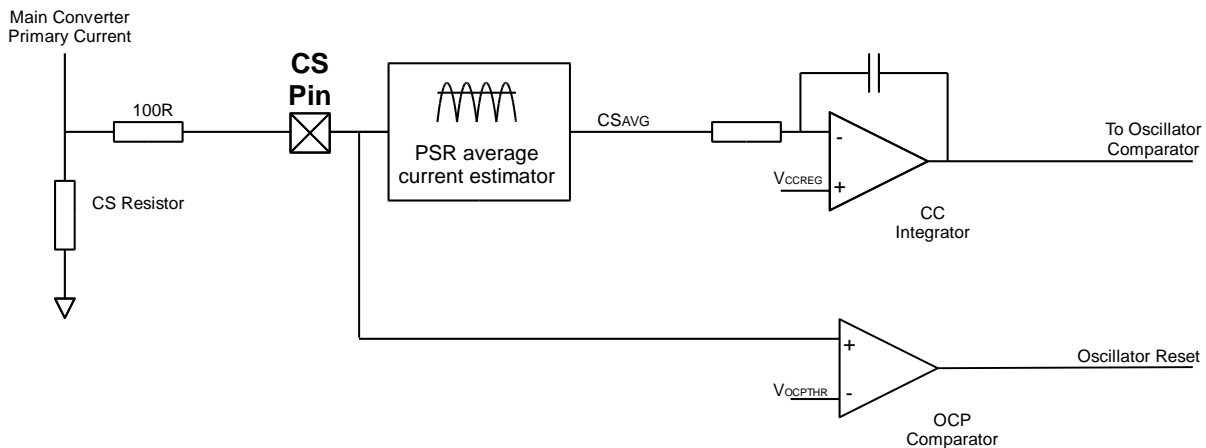

Figure 7: RED2422 Current protection and control circuits
Figure 7 shows the two current control methods used in the converter:
Shown in figure 7 the signal from the CS pin is divided into two different paths. The bottom path provides peak instantaneous over-current protection (OCP) while the PSR Average Current estimation block provides the current regulation (CC) information. The voltage on the CS pin is an AC signal biased around GND. Inside the PSR block this signal is processed to provide a voltage proportional to the average converter output current.
The CC regulation circuit is shown in Figure 7. CC operation is defined by an internally compensated control loop. This provides a system response time of approximately 300us in a typical application. The average current regulation point, V_{CCREG} is pre-set to 150mV, referred to the CS pin.